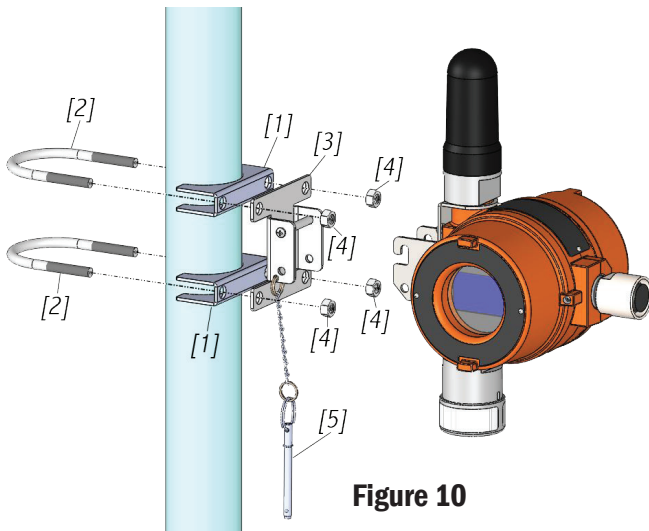

Figure 10
1. Remove hardware from packaging (see Figure 10).